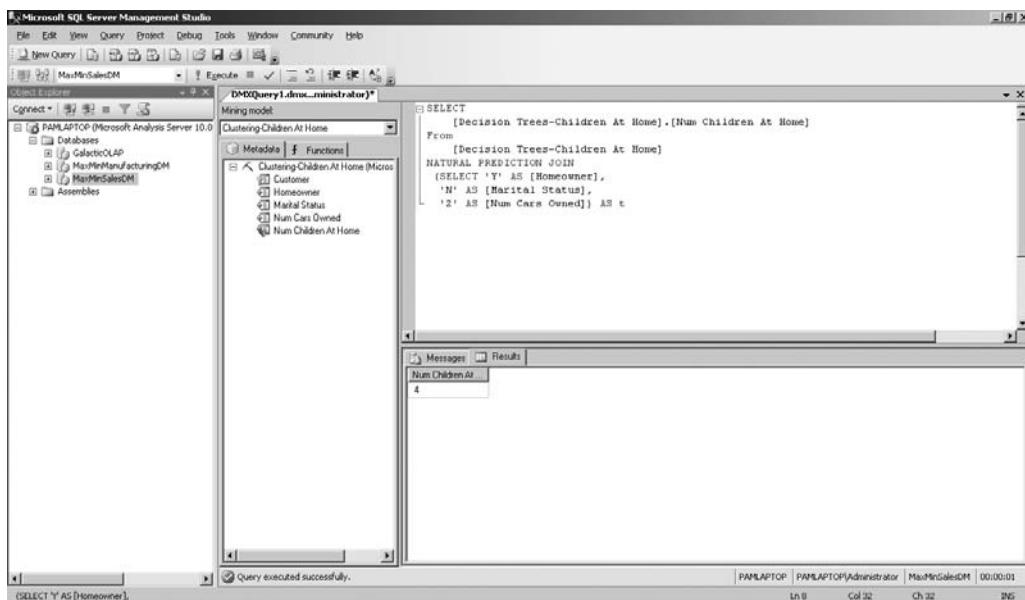

Figure 15-24 A singleton query in the SQL Server Management Studio
9. Click the Execute button on the toolbar. The SQL Server Management Studio appears as shown in Figure 15-24.